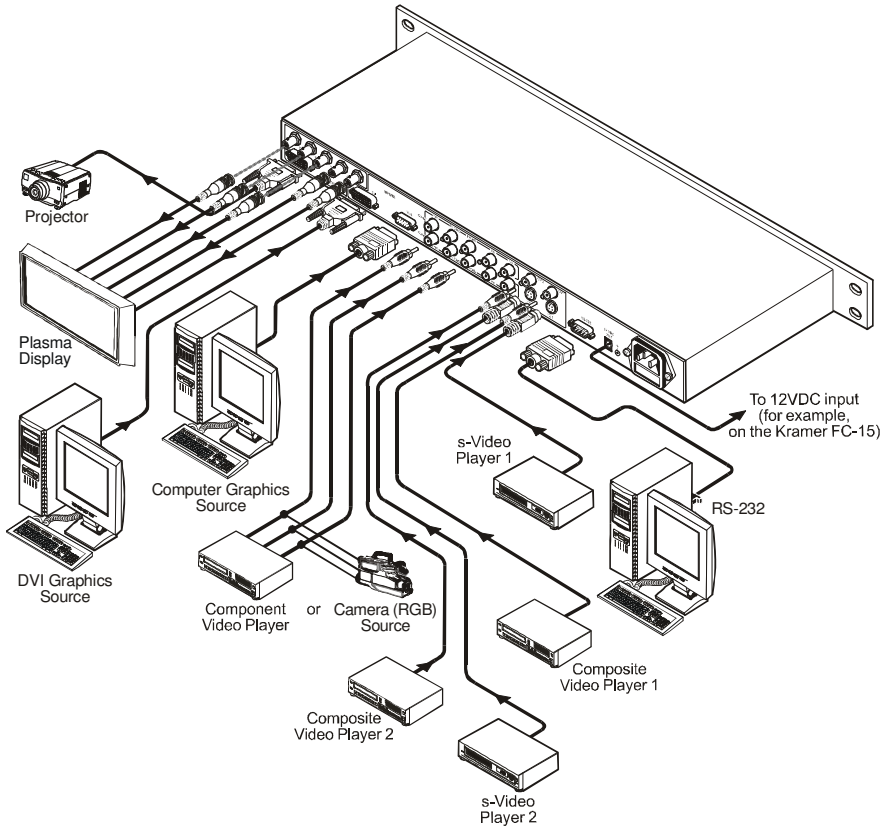

Figure 3: Connecting the VP-740 Rear Panel
To connect the **VP-740**, as the example in Figure 3 illustrates, do the following¹:
8. Connect the power cord⁴ (not illustrated in Figure 3).